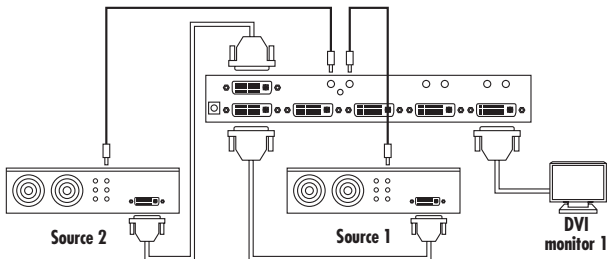

Figure 3-4. Attaching monitor 1 to switch's video port 1.
1. Connect your monitor 1 to the switch's video port 1. See Figure 3-4.